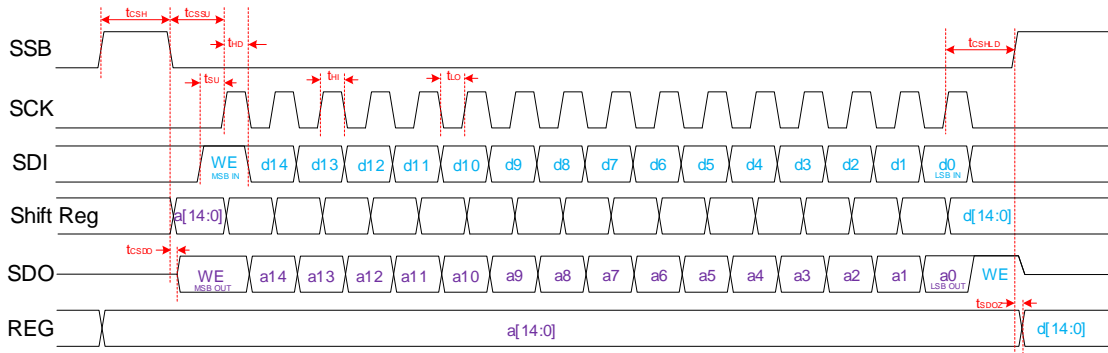
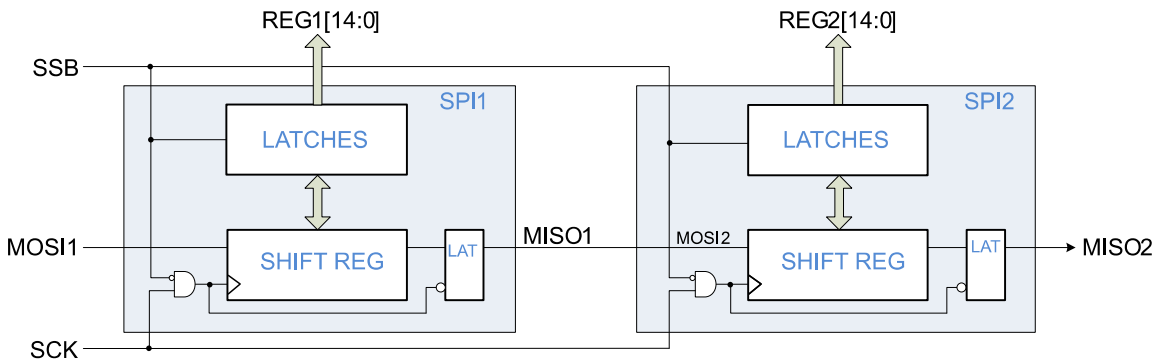
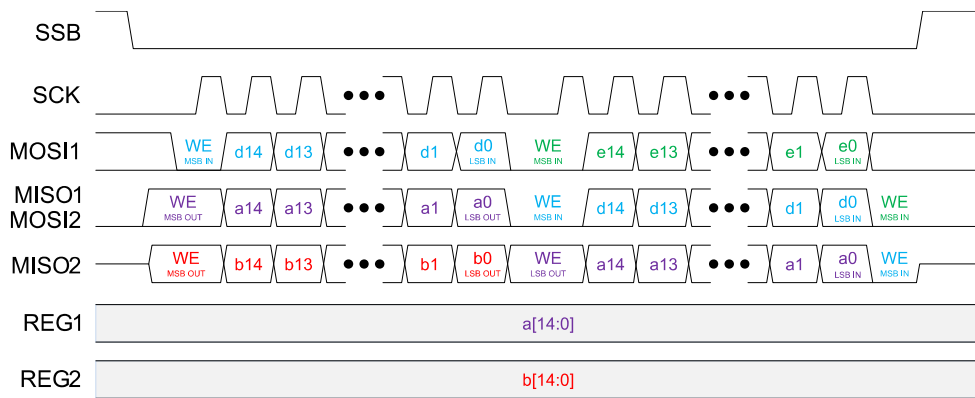
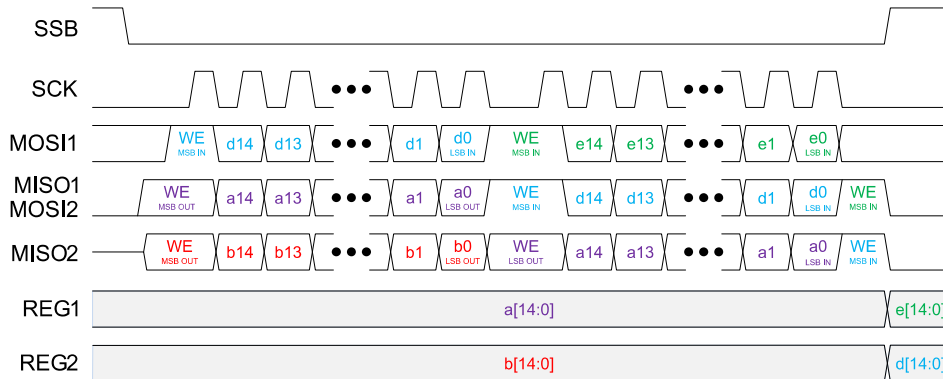

Figure 8. SPI Timing Diagram
Figure 11. SPI with 2 ICs Daisy-Chained
Figure 12. SPI Read Only (2 ICs Daisy-chained)
Figure 13. SPI Read & Write (2 ICs Daisy-Chain)
MODE = 0, activates the 16-Bit Serial Peripheral Interface (SPI) module for operation. Multiple devices can be daisy-chained to drive multiple ICs using one SPI bus (see Daisy Chain Operation, Figure 11., Figure 12. and Figure 13). The SPI works at any frequency up to a maximum of 33 MHz and may operate at significantly lower frequencies if the logic signals adhere to the data setup and hold requirements.
SPI timing diagrams are provided in Figure 8 through Figure 13. In SPI mode, data transmission starts when SSB goes Low, causing the Target to output the Most Significant Bit (MSB) of data to the SDO (MISO) pin. Data transfer from Host to Target takes place during the rising edge of the clock (SCK), which is idle when SSB is High. This mode of operation requires data for Host and Target to be present on SDI (MOSI) before the rising edge of the clock (defining SDI to SCK setup time). Data is pushed out of the SDO (MISO) pin during the falling edge of the clock. After the first 16-bit transaction, Host writes the latest data (DN) to
Daisy chaining the ICs is permitted and involves connecting the MISO of one chip to the MOSI of the next chip in the chain, as shown in Figure 11. SPI timing diagrams with daisy-chained devices are provided in Figure 12 and Figure 13.